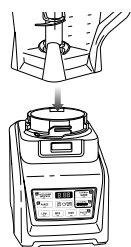

Fig. 2
- 4 Align and lower the pitcher onto the motor base. **(Fig. 2)** Handle should be aligned slightly to the right of the "LOCK" symbol on the motor base.